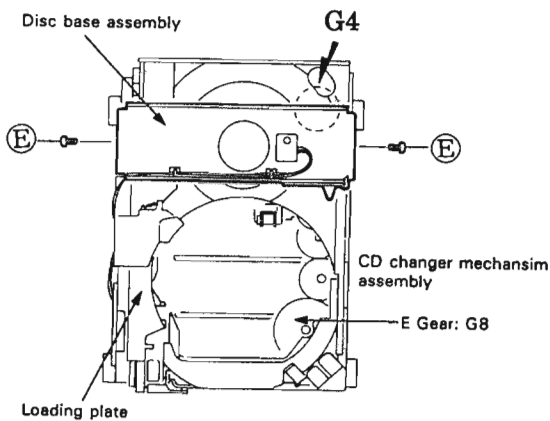
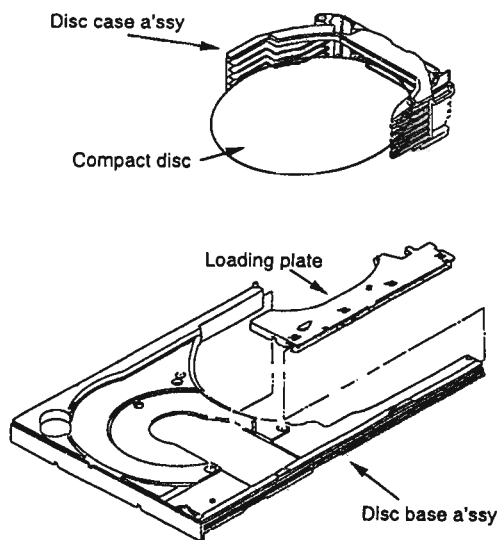

Fig. 6
Fig. 12
2. Take off 2 screws ⑤ securing the clumper base assembly.
3. Turn the gear G4 manually in the direction of arrow as shown in Fig.6, and lower the CD mechanism assembly.
1. Remove the CD changer mechanism assembly. (Refer to Item (4) of "CD changer mechanism assembly removal")
- 2-1. Method of ejecting the compact disc on the disc base ass'y. (Refer to Fig.6)
- (1) Turn the gear G4 clockwise and lower the CD mechanism.
- (2) When the loading plate is located at the rear most position, move the plate to the front panel side (At this time, the compact disc will be set on the disc base ass'y by the loading plate).
- (3) By moving the disc base ass'y to the front panel side, take out the compact disc.
- 2-2. Method of ejecting the compact disc left on the disc case ass'y (Refer to Fig.12).
- (1) Move the loading plate to the rear most position.
- (2) Turn the E gear G8 (Refer to Fig.6) counterclockwise, and move up the disc case ass'y into which any compact disc has been loaded.
- (3) While turning the E gear G8, align the first compact disc (the lowermost compact disc on the disc case ass'y) to its loading position to the loading plate.
- (4) After the loading plate onto which the first compact disc is loaded has been moved to the front panel side, pull out the disc base ass'y from the front panel side and take out the compact disc.
- (5) Eject the second through sixth compact discs as well similarly according to the procedures in Items (1) through (4). Whenever the second and subsequent discs are to be ejected, however, align the compact disc to be ejected to the height of the loading plate.